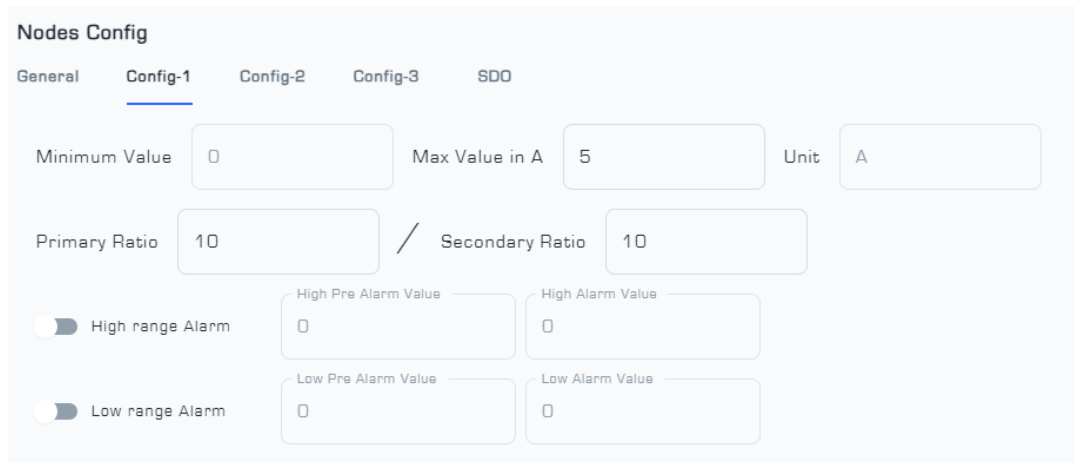

Figure 6: Config Menu from Node Setting page
■ In the Config menu of the wireless 3-channel Alternative Current Node, as shown in Figure 6, the alarm settings of the Node can be configured. The High Alarm Value and High Pre-Alarm Value are related to setting the alarm and pre-alarm for the maximum danger value for the Node, and the Low Alarm Value and Low Pre-Alarm Value are related to setting the alarm and pre-alarm for the minimum danger value for the Node.